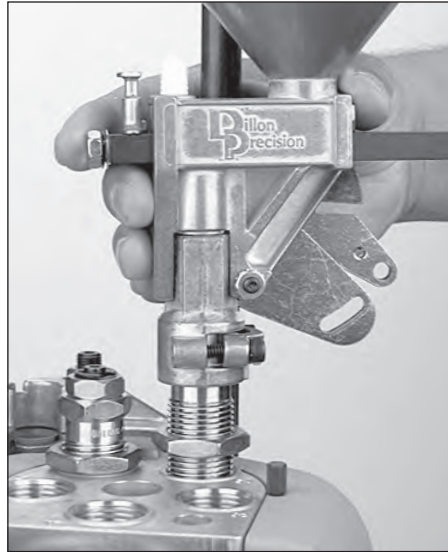

FIG 92
5. Place the powder measure onto the powder die **FIG 92**. Turn down the two clamp screws until they are snug. Then loosen them slightly. The measure should move freely atop the die.